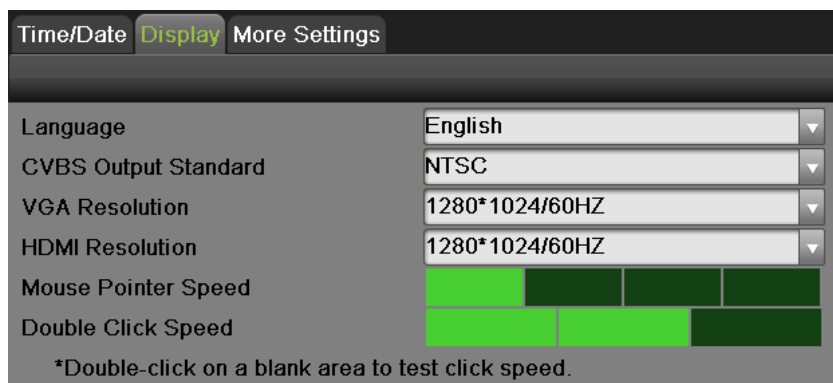

Figure 30 Display Menu
1. Set language, CVBS output standard, resolution and so on by going to Menu > System Configuration > General > Display, as shown in Figure 30.